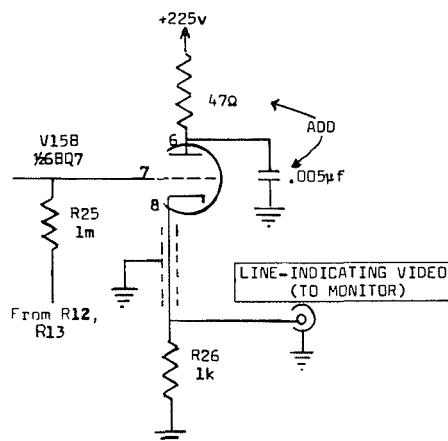

Figure 1. Type 524D/524AD Vertical Amplifier and Delay Line (partial schematic).
- Decouple the plate of V15B by adding a 47 Ω , $\frac{1}{2}$ w, 10% composition resistor (Tek no. 302-470) and a 0.005 μ f, 500 v discap (Tek no. 283-001) as shown in Figure 1. This prevents the line-indicating video-output circuit from oscillating when V15 is a 6DJ8 and a 52 Ω load is used.